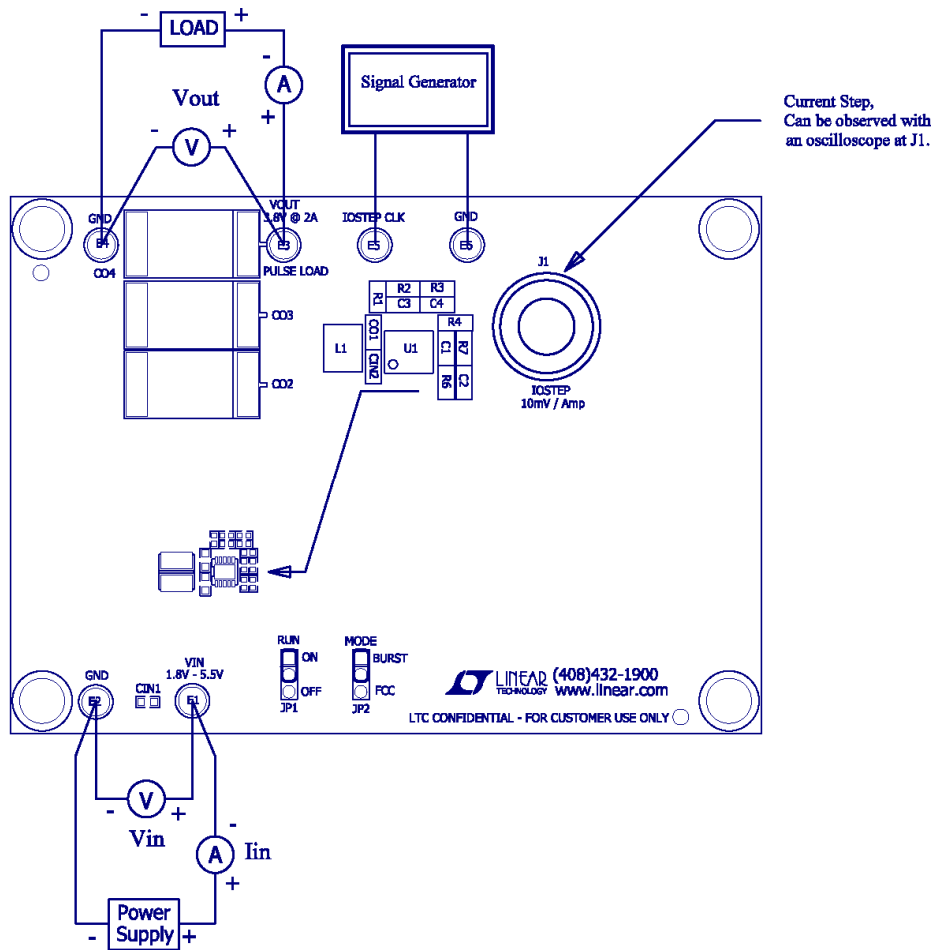
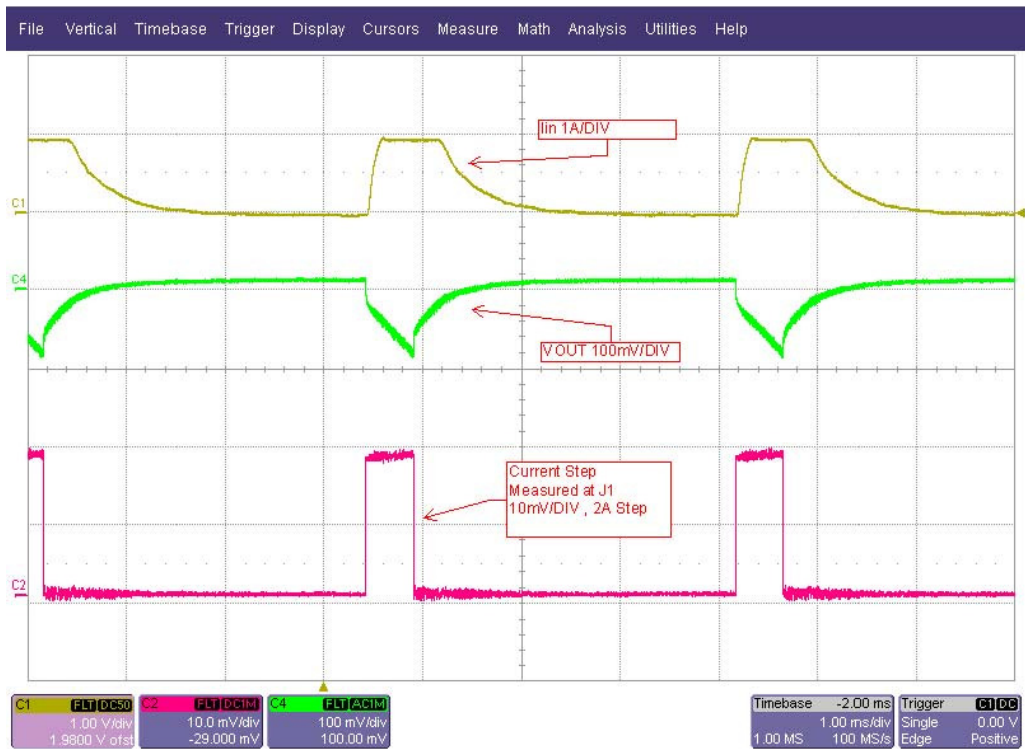

Figure 1. Connection Diagram
Figure 3. Step Load Response
Using short twisted pair leads for any power connections and with all loads and power supplies off, refer to Figure 1 for the proper measurement and equipment setup. The Power Supply (PS) should not be connected to the circuit until told to do so in the procedure below.
Demonstration circuit 1451A can be setup for simple evaluation of pulse loads – please see optional circuit (Dynamic Load Circuit) in Figure 1 and Figure 4 for proper setup. The circuit is capable of pulsed loads of up to 2A with duty cycles up to 15%. Starting from step 7 in the quick start procedure above, follow the procedure below:
8. Connect Signal Generator with an adjustable output amplitude between IOSTEP CLK and GND as shown in Figure 1. Adjust the signal generator output to produce a pulse of 2A as measured at J1 (IOSTEP, 10mV/DIV) with an ON time of 576  $\mu$ S and a period of 4.6 mS shown in Figure 3. Adjust the period and duty cycle of this signal to match that of the required load prior to attaching the pulse generator. The amplitude can vary but is approximately 2Vpp for a 2A step. Oscilloscope termination should be 1M $\Omega$ .
An example result showing Vout and a pulse load Iout is given in Figure 3.